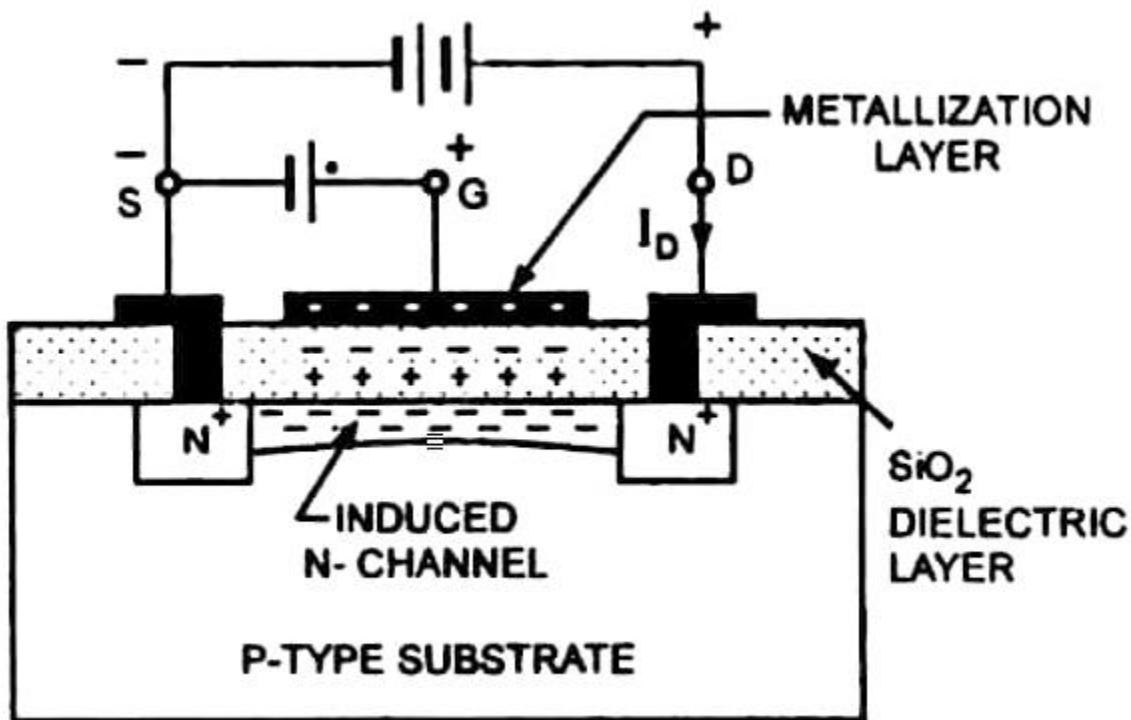

Figure 3.19 Biasing polarities of N channel E-MOSFET
3.11.2 Circuit operation of E- MOSFET: Figure 3.19 shows the normal biasing polarities of N-channelE-MOSFET. It operates with large positive gate voltages only. When the gate to source voltage is zero, the positive drain voltage VDD force free electrons to move from source to drain but as no channel exists , substrate P type material restricts the electron to pass through it. Thus there is no drain current for $V_{GS}=0$.Due to this region, the enhancement type MOSFET is also called normally-OFF MOSFET.